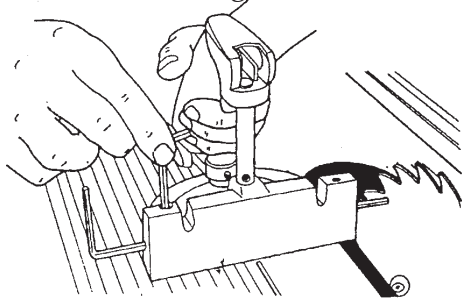

Figure B-74
43. Insert the long 5/32" Allen wrench through the miter gauge. Borrow a set screw from the lathe tool rest and use the short 5/32" Allen wrench to install it in either top miter gauge hole, as seen in Figure B-74. Place the tip of the long wrench against the front side of the saw blade and tighten the set screw.